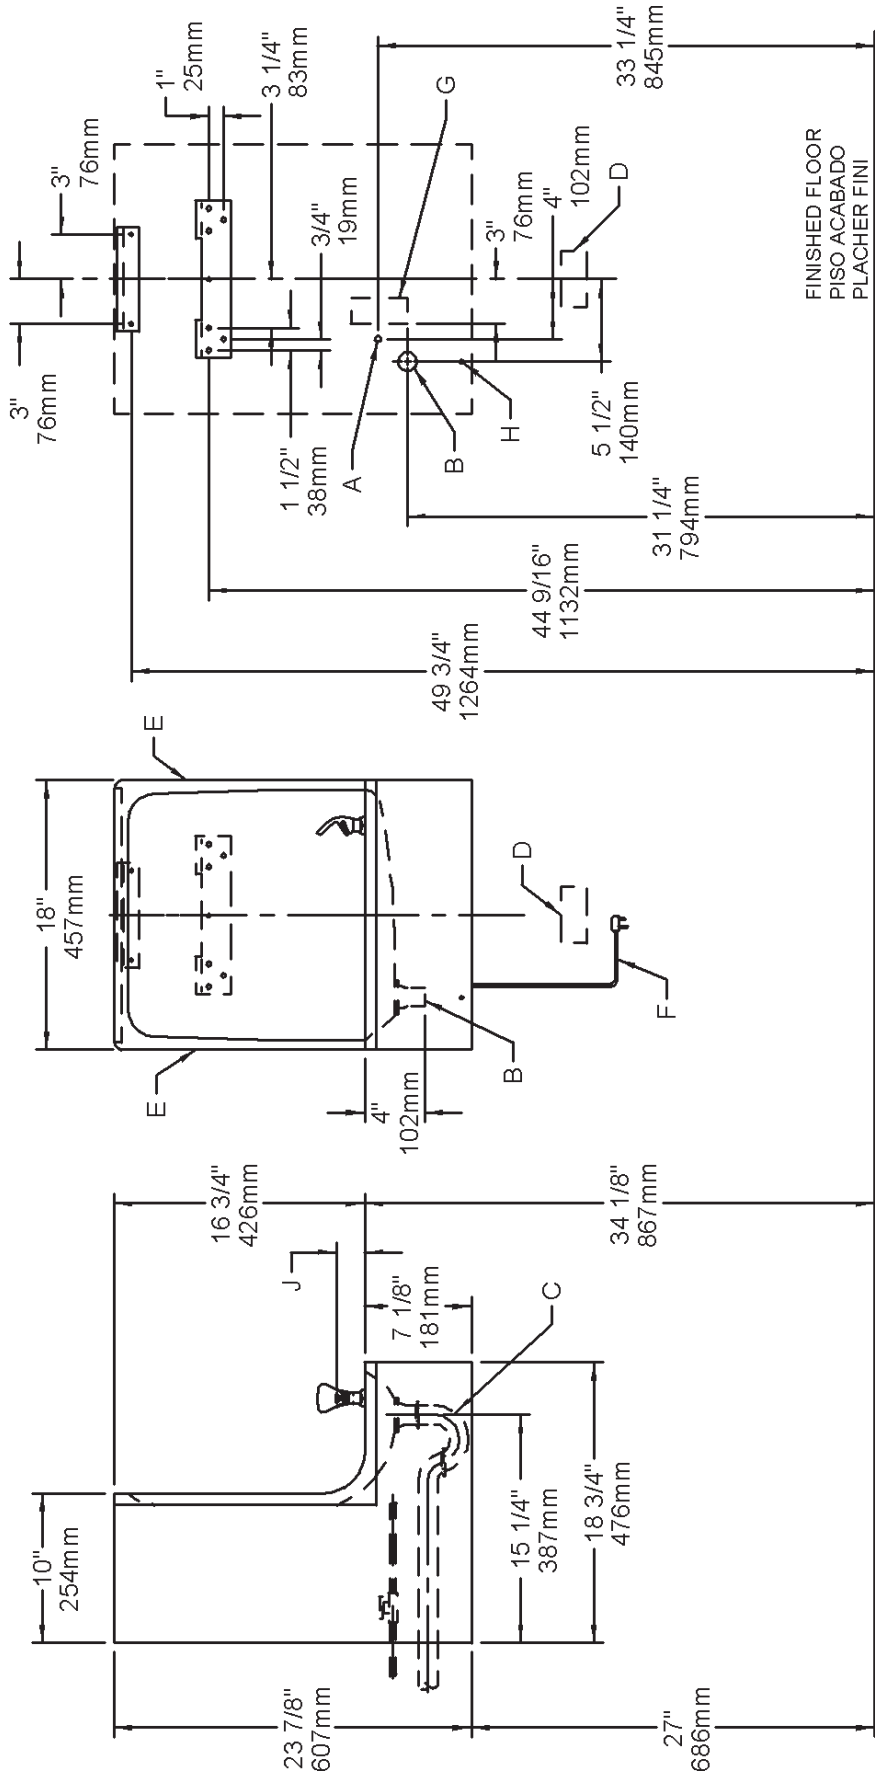

FIG. 2
- 1) Remove hanger bracket fastened to back of cooler by removing one (1) screw.
- 2) Mount the hanger bracket and trap as shown in Figure 2. **NOTE:** Hanger Bracket **MUST** be supported securely. Add fixture support carrier if wall will not provide adequate support.
- Anchor hanger securely to wall using all six (6) 1/4 in. dia. mounting holes.
- 4) Hang the cooler on the hanger bracket. Be certain the hanger bracket is engaged properly in the slots on the cooler back as shown in Figure 2.
- 5) Loosen the two (2) screws holding the lower front panel at the bottom of cooler base and two (2) screws at the top. Remove the front panel and set aside.